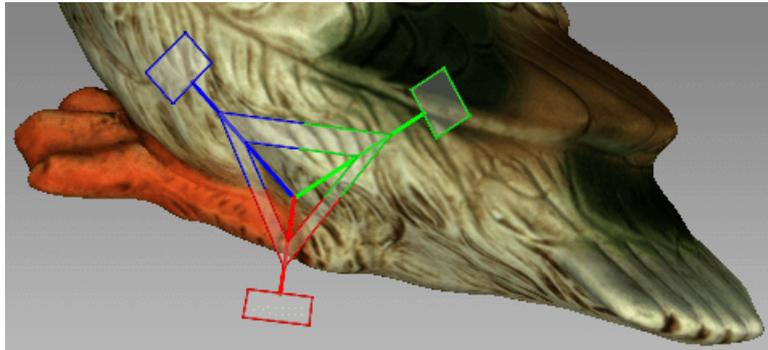

Figure 117: Scaling control
- Drag the origin of the control (Figure 117) or either of its round ends in the *3D View* window.